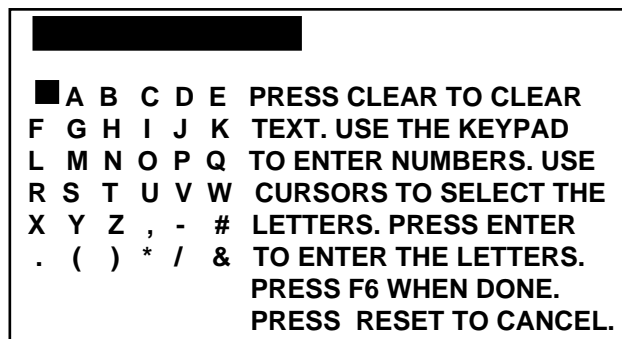

Figure 4-14. Overlay for entering text
2. Use the cursor keys to highlight the name you want. Press ENTER to select it. If you want to make up a custom name, highlight “CUSTOM” and press ENTER. A screen overlay appears that allows you to enter up to twelve characters of text for a custom name, Figure 4-14 on the next page.